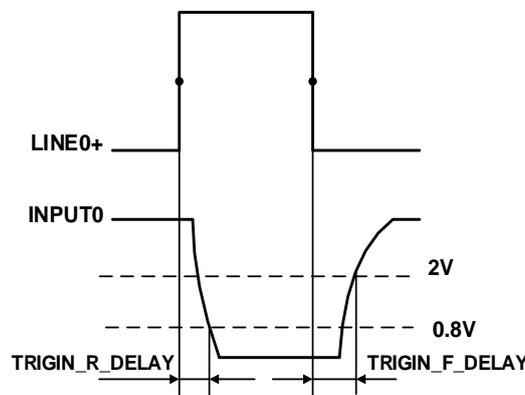

Figure 7-5 Parameter of opto-isolated input circuit
- Rising edge delay: $<50\mu\text{s}$ ($0^\circ\text{C}\sim 45^\circ\text{C}$), parameter description as shown in Figure 7-5
- Falling edge delay: $<50\mu\text{s}$ ($0^\circ\text{C}\sim 45^\circ\text{C}$), parameter description as shown in Figure 7-5